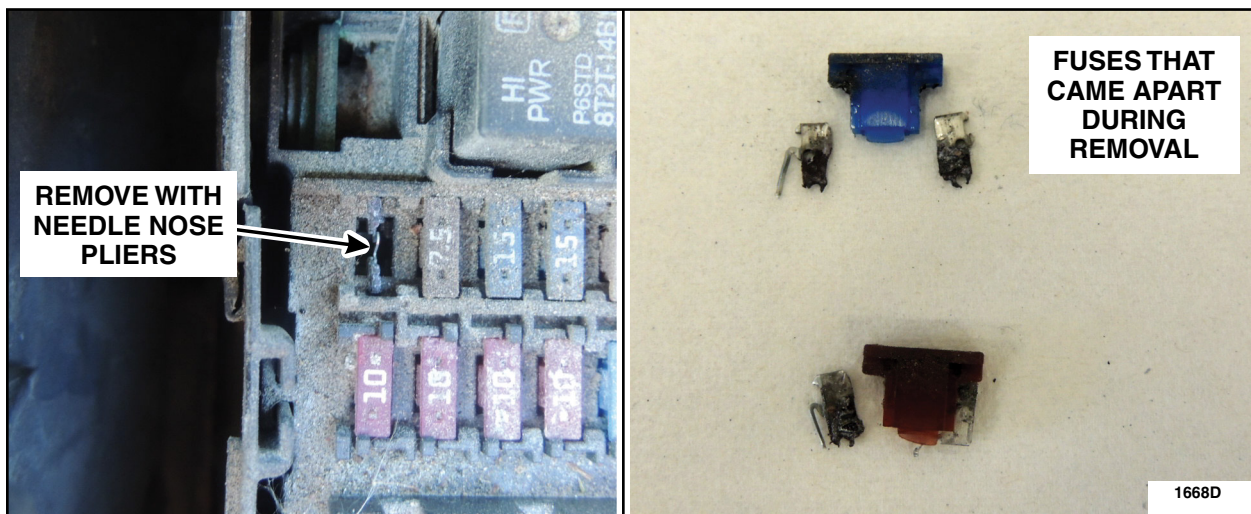

FIGURE 3
- Remove any remaining fuse pieces, as necessary, from the BJB using needle nose pliers. See Figure 3.